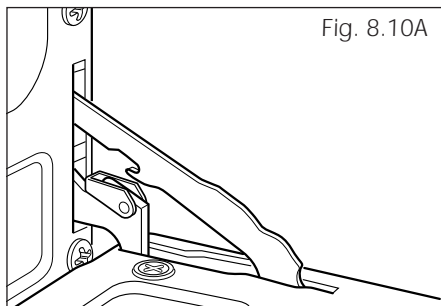

Fig. 8.10A
- Open the door to the full extent (fig. 8.10A).